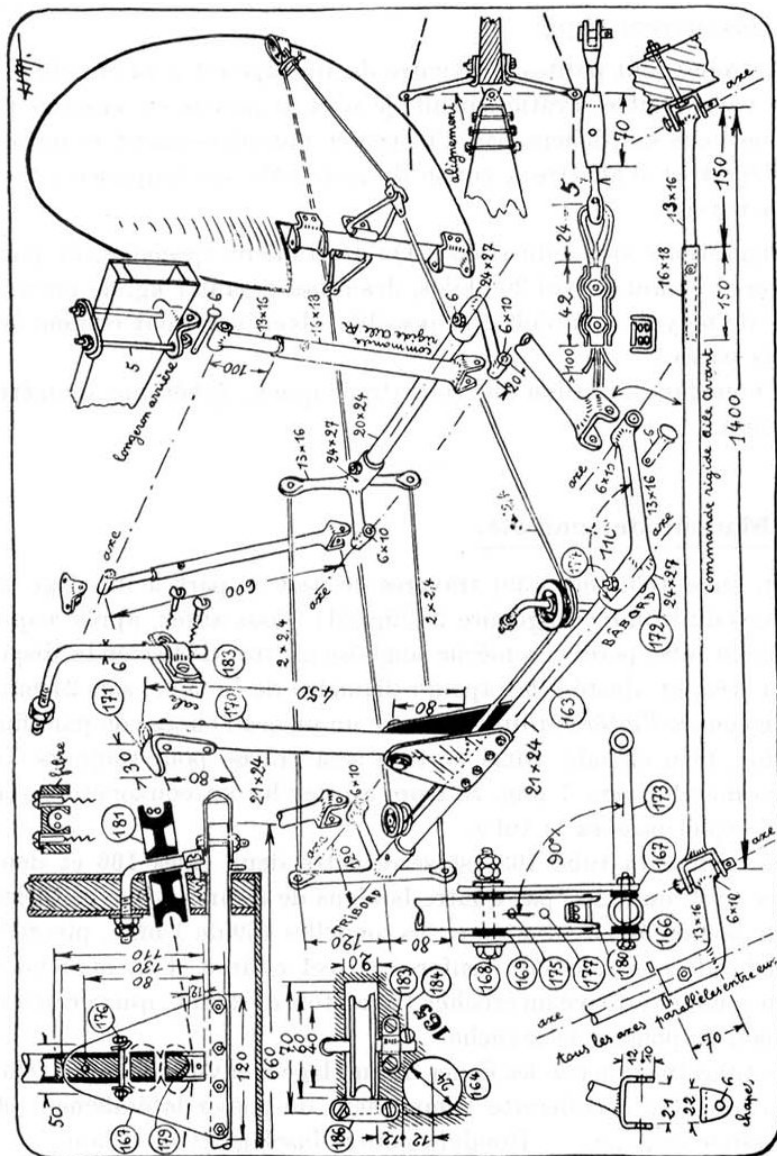

Figure 3.23: Layout of control system
A tube (163) (*fig. 3.23*) passes straight through the fuselage below the rectangular hole 26 (*Fig. 51*⁴). You will have to use a brace and bit to drill a hole (164) as seen at (165), and use a rasp to fit it to the diameter of the tube, *i.e.* 24mm.